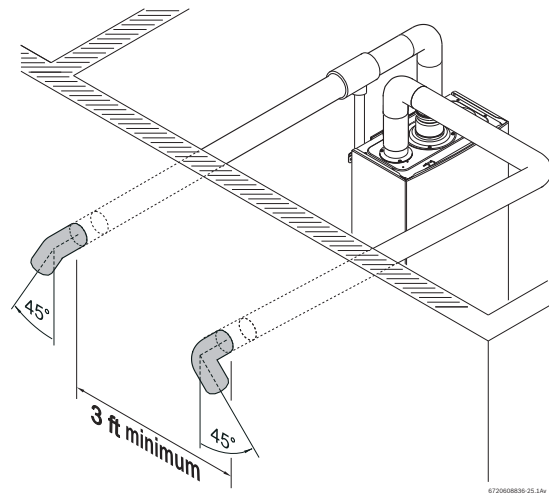

Fig. 13 Horizontal parallel venting system (twin pipe direct vent)
- Attach the flue gas exhaust accessory to the top of the unit Fig. 13 (position 1) using the 4 screws and gasket provided, and fully insert vent pipe into the accessory.